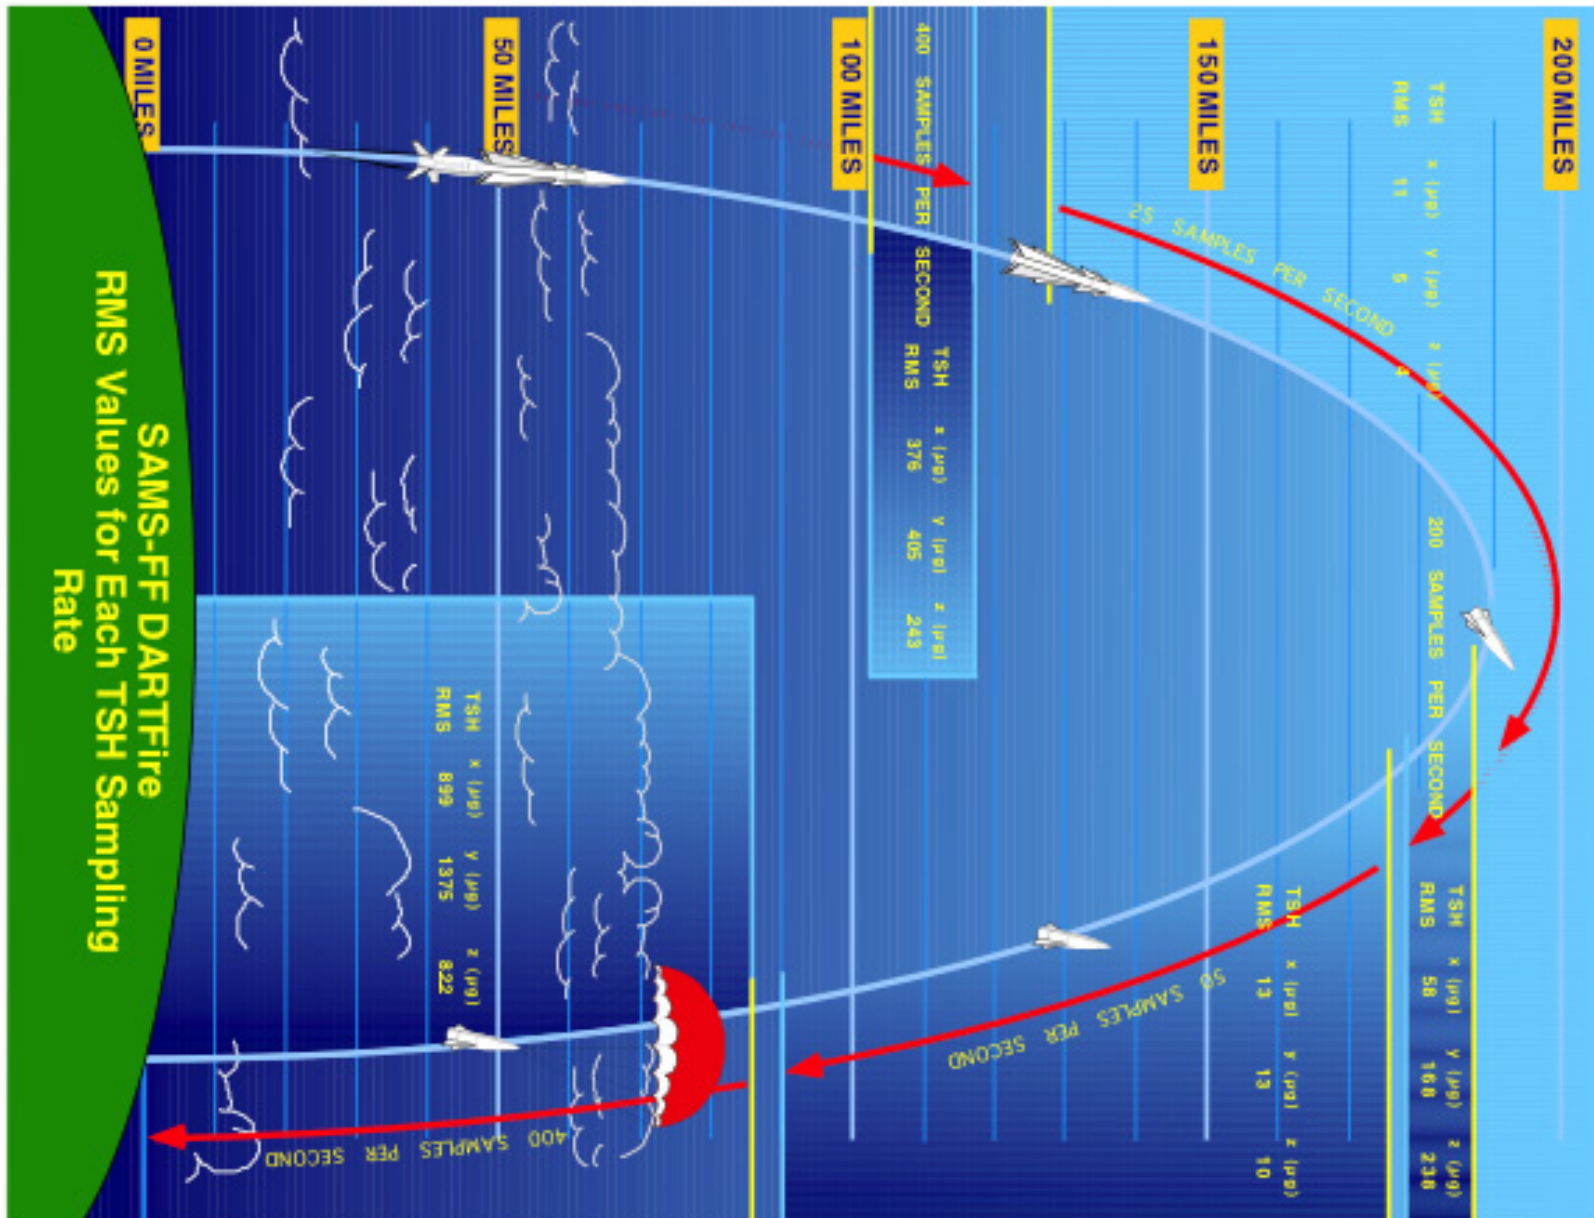

Figure 8 - Terrier-Black sounding rocket flight timeline
- Flight timeline is shown in Figure 8